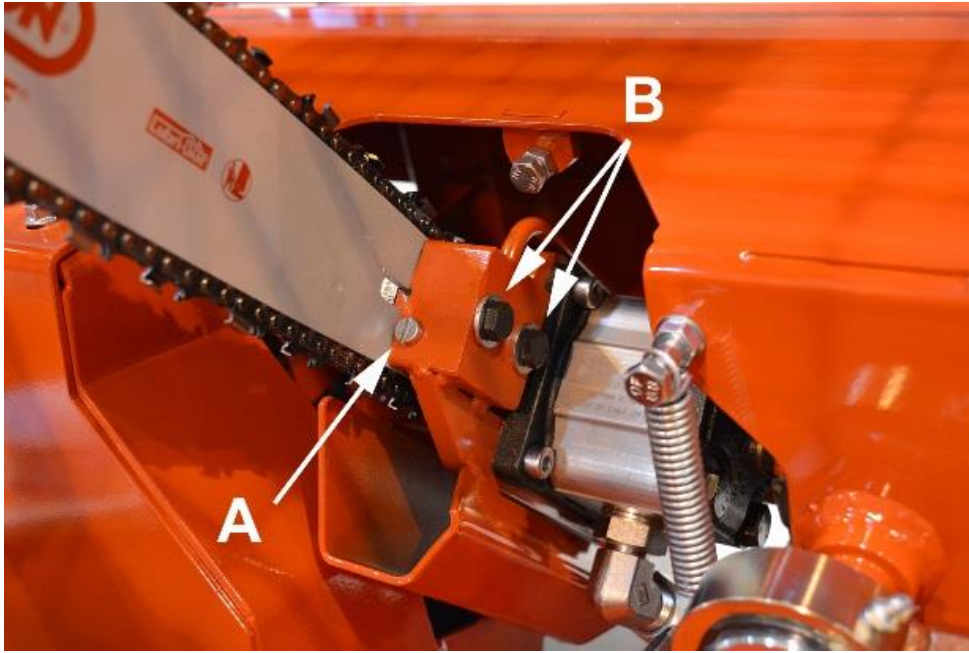

Figure 24.
3. Loosen saw bar bolts B (Figure 24).
4. Fully loosen adjustment screw A for saw chain tension (Figure 24).
8. Use adjustment screw A to tighten the chain and tighten fastening bolts B (Figure 24).